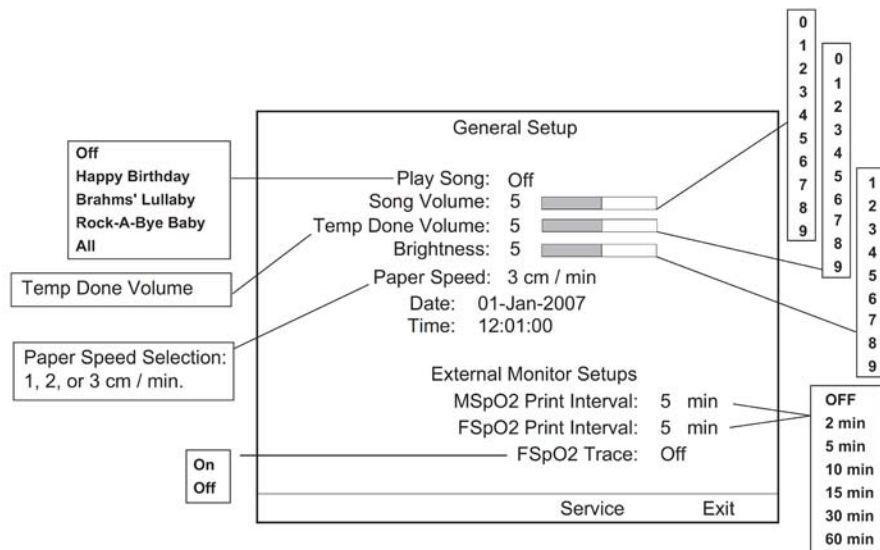

Figure 2-7
2. Use the Trim Knob Control to select the *Setup* softkey to display the *General Setup* screen and set the correct date and time ("Figure 2-7"). Set the paper speed in accordance with the hospital or local requirements.